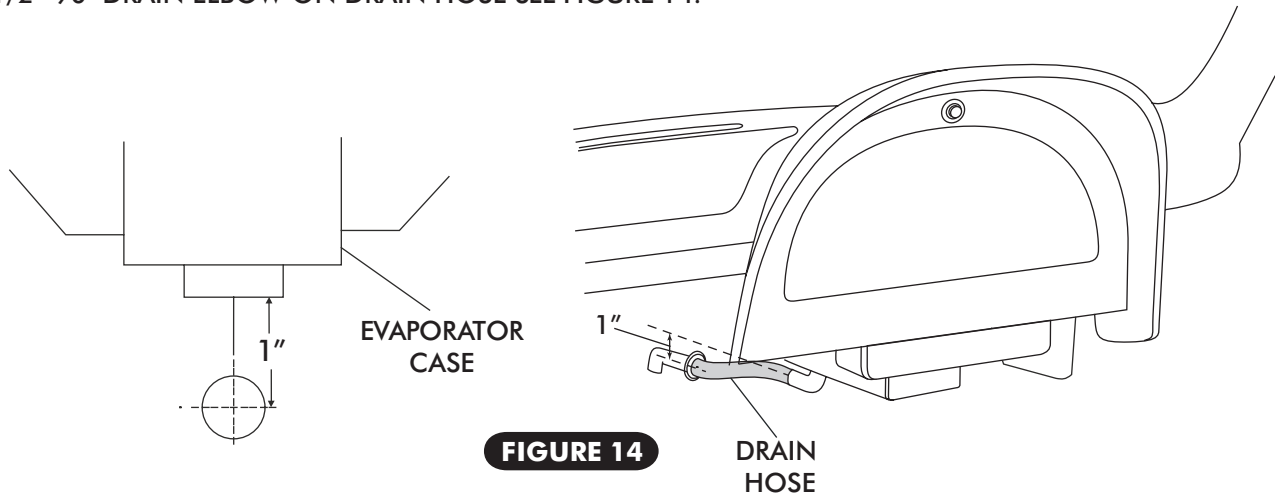

FIGURE 14
- IN-LINE WITH DRAIN, LIGHTLY MAKE A MARK ON THE FIREWALL. MEASURE 1" DOWN AND DRILL A 5/8" HOLE THROUGH THE FIREWALL. SEE FIGURE 14 BELOW.
- INSTALL DRAIN HOSE TO BOTTOM OF EVAPORATOR UNIT AND ROUTE THROUGH FIREWALL. INSTALL 1/2" 90° DRAIN ELBOW ON DRAIN HOSE SEE FIGURE 14.